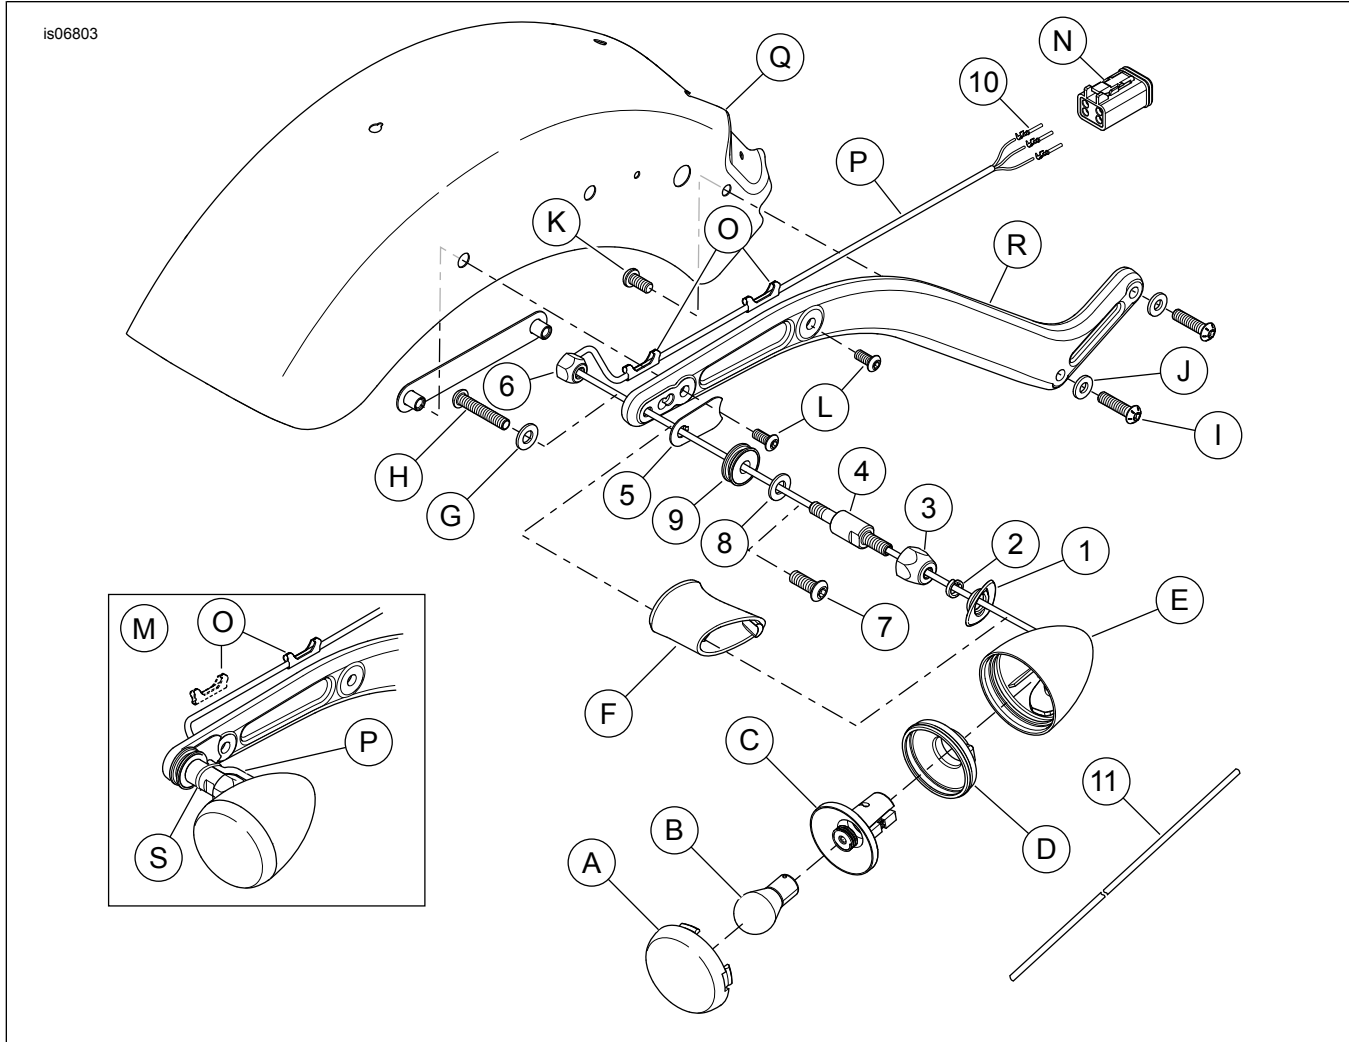

Figure 1. Service Parts: Turn Signal Relocation Kit
5. See the service manual and Figure 1. Remove the socket terminals (10) from the 4-way socket housing (N).
6. Remove two screws (L) and screw (K) and remove the fender support (R) from the fender (Q).
7. Separate the Stop/Tail/turn harness (P) from the retaining clips (O).
8. Remove screw (H), washer (G), turn signal stalk (F) and assembled Stop/Tail/Turn lamp assembly from the fender support, pulling the harness out of the fender support and turn signal stalk. Save the washer for later installation and discard the screw and turn signal stalk.
- b. Remove lens (A) from Stop/Tail/Turn housing (E). Remove bulb (B) from the socket of reflector (C).
- c. Carefully pry the socket (C) and grommet (D) from the housing. The socket (C) and grommet (D) can be pressed out the housing (E) by inserting a small screwdriver into the harness hole of the housing (E) and prying gently against the back of the socket. Gently pull the wires from the housing.
1. See Figure 1. Install screw (7), washer (8), docking point (9) and cover plate (5) to rear hole of the fender support and secure with nut (6) and stock washer (G). Hold nut in place with a 3/8 inch hex key and tighten screw to 20 N·m (15 ft-lbs).
2. Clean the threads of screws (L) and (K) of any existing threadlocker.
3. Apply a small amount of Loctite 243 (blue) to screws (L), then install the fender support (R) to the fender (Q) and secure with fender bracket and screws. Do not tighten at this time.
4. Apply a small amount of Loctite 243 (blue) to screw (K) and install to fender (Q) and fender support (R).
1. See Figure 1. Install the turn signal stalk (4), washer (8), docking point (9) and cover plate (5) into the rear mounting hole in the fender support. Secure the stalk to the fender support with nut (6) and stock washer (G). Do not tighten at this time.
2. Use a 3/8 inch hex key to rotate the nut (6), so that the outlet of the cut groove on the nut will face towards the front of the fender when the fender support is installed.
4. Install jam nut (3) onto turn signal stalk (4) until it bottoms out on the threads, but do not tighten.
5. Install lockwasher (2) onto turn signal stalk (4).
6. Remove the socket terminals from the Stop/Tail/Turn harness by cutting the wires (P) immediately behind the socket terminals (10).
7. Place the recess cover (1) into position over the recess in the turn signal housing. Insert the wires from the socket through the grommet (D) into the turn signal housing (E), through the threaded hole and the recess cover, and into the turn signal stalk (4).
1. See Figure 1. Install turn signal stalk (4), washer (8), docking point (9) and cover plate (5) to rear hole of the fender support and secure with nut (6) and stock washer (G). Hold nut in place with a 3/8 inch hex key and tighten turn signal stalk (4) to 20 N·m (15 ft-lbs).
2. Install jam nut (3) onto turn signal stalk (4) until it bottoms out on the threads, but do not tighten.
3. Install lockwasher (2) onto turn signal stalk (4).
4. Route the Stop/Tail/Turn harness through the small hole of the recess cover, then place the recess cover (1) into position over the recess in the turn signal housing.
7. Cut a 15 cm (6 in) section of conduit from the conduit (11) from the kit. Install the conduit over the gray harness of the Stop/Tail/Turn lamp and slide it all the way up to the recess cover.
8. See Figure 1, item (M). Remove the rear retaining clip (O) from the fender strut.
9. Route the wiring harness (P) along the turn signal stalk. Secure the harness to the turn signal stalk with a cable strap (S).
10. Route the wire harness to the fender side of the fender strut through the recess created by removing the rear retaining clip. Then route it through the front retaining clip (O). It may be necessary to flatten the conduit for it to fit properly.
11. See the service manual and install the wire harness socket terminals into the socket housing (N):
- a. Install the White (W) wire into cavity 1.
- b. Install the Green (GN) wire into cavity 2.
- c. Install the Red (R) wire into cavity 3.
- d. Install the Black (BK) wire into cavity 4.
12. Clean the threads of screws (L) and (K) of any existing threadlocker.